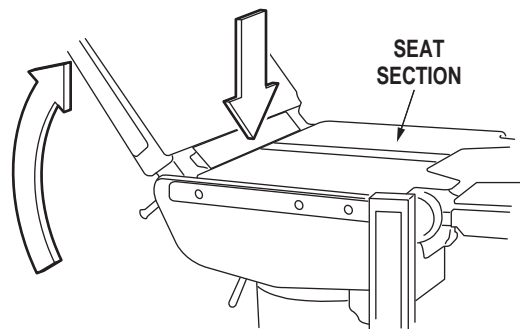

**Figure 2-24. Kidney Lift**
a. The built-in kidney lift is operated by a manual hand crank system and allows 100mm of lift. See figure 2-24. The hand crank is stored in a bracket under the seat section.